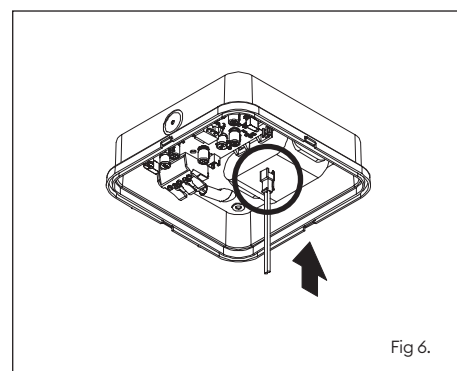

Fig 6.
10. Plug the battery cable into the socket on the product (fig 6).